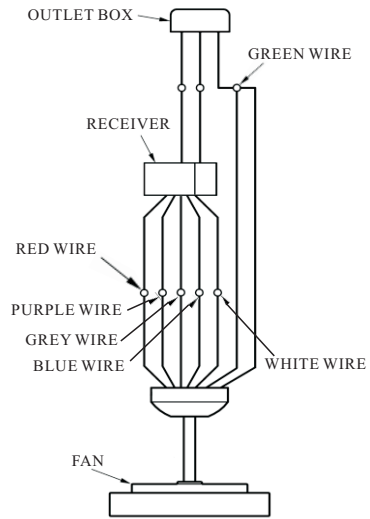

FIG. 8
2. Connect the red wire from receiver to the red wire from fan with wire nut. Connect the purple wire from receiver to the purple wire from fan with wire nut. Connect the grey wire from receiver to the grey wire from fan with wire nut. Connect the blue wire from receiver to the blue wire from fan with wire nut. Connect the white wire from receiver to the white wire from fan with wire nut. Connect the green wire from ceiling, and green wire from hanger bracket with green wire from downrod ball with wire nut. (see fig 8)